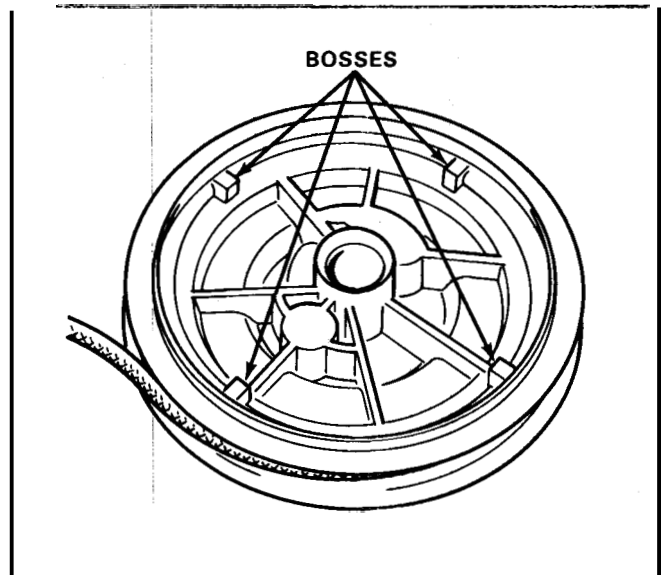

Figure 47
5. Install the reel. The bosses on the inside diameter of the reel engage the slots on the outside diameter of the springcase. See Figure 47.